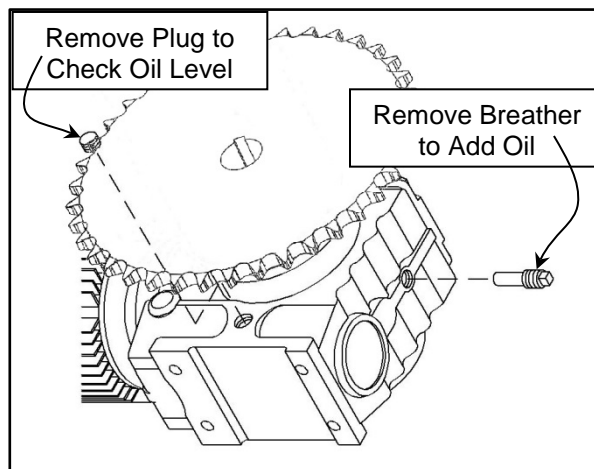

Figure 27
- Fill the gearbox by removing the breather toward the top of the gearbox and add oil through the exposed hole. Add oil until it starts draining from the check plug hole. (See Figure 27)